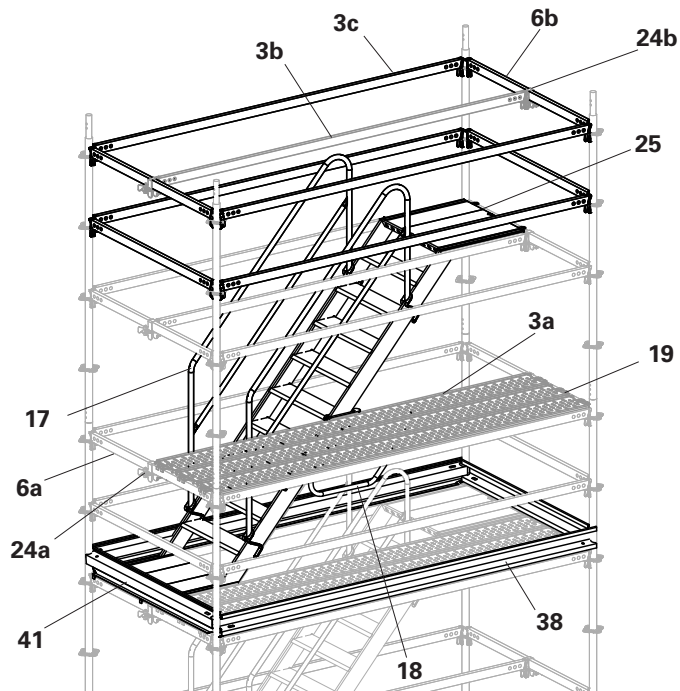

Fig. A10.03
2. Re-position Steel Decks UDG-2 (19) in the position shown.
4. Remove Staircase UAS-2 (37), Stair Guardrails UAH (18) and UAG (17).
5. Remove Toeboard Steel UPY 300 (38) & UPY 150 (41).
6. Remove temporary Horizontal Ledger UH-2 300 (3a) and Steel Decks UDG-2 (19). (Fig. A10.03)